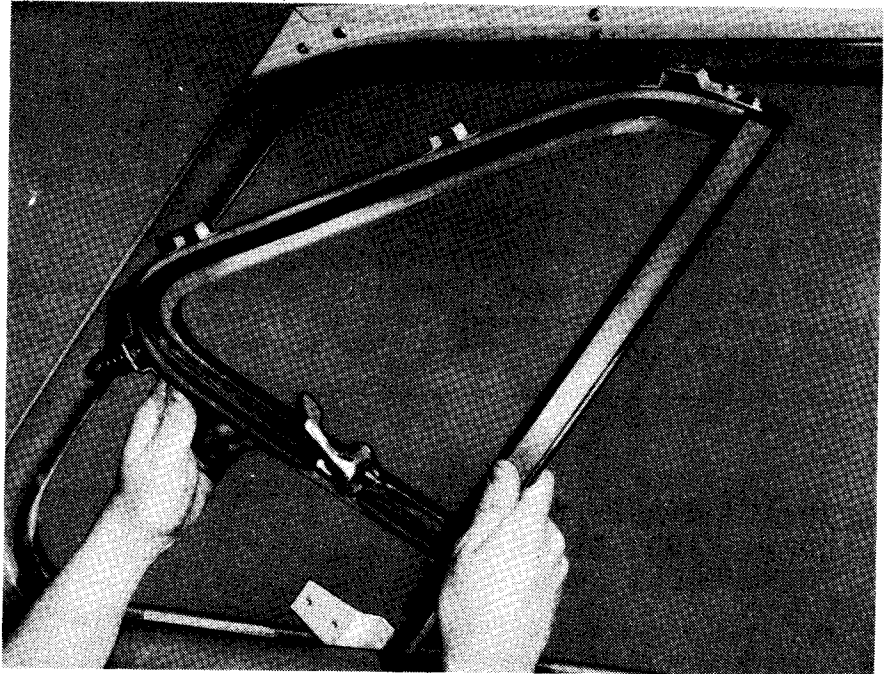

FIG. 21
13. Lift the vent window assembly out of the door (see Fig.21).